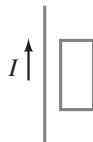

FIGURE 21-47
- (a) A wire loop is pulled away from a current-carrying wire (Fig. 21-47). What is the direction of the induced current in the loop: clockwise or counterclockwise? (b) What if the wire loop stays fixed as the current I decreases? Explain your answers.